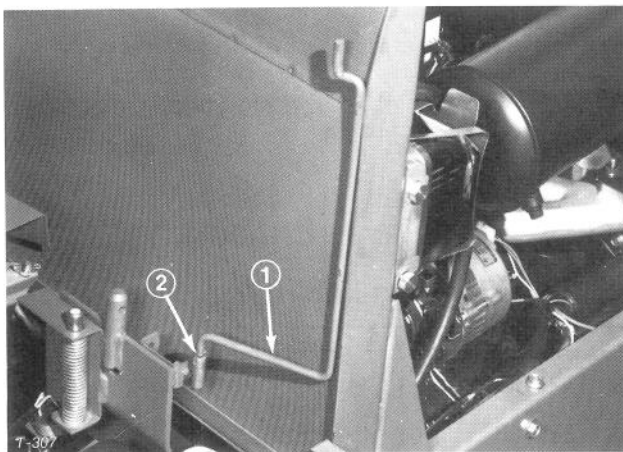

Figure 9
7. Install seat support rod to seat support bracket with jam nut (Fig. 9).
4. Install seat support rod to seat support bracket with jam nut (Fig. 9).